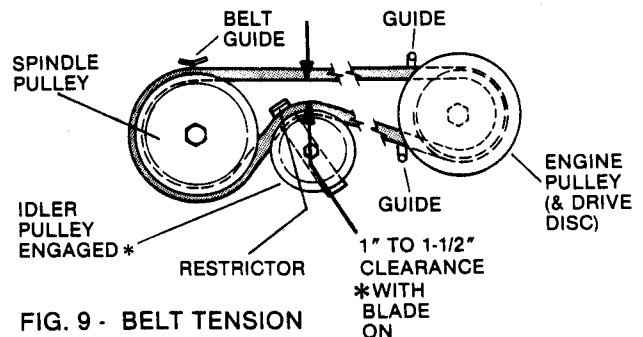

FIG. 9 - BELT TENSION
With the mower deck in the #5 height position and the blade in the ON position, check the distance between the inside surfaces of the belt as shown in FIG. 9 - the clearance should be from 1" to 1-1/2". The belt tension is adjusted by changing the "distance" between the main tube's vertical bracket (X) and the **FRONT** of the rear case. Remove the shoulder bolt (Y) from above the main tube and pull the front assembly **FORWARD**, increasing the belt tension until the correct amount is achieved. Remove one or more spacers as needed, from in front of the vertical bracket and move to the backside (between the bracket and the case). Then reinstall and securely tighten the shoulder bolt (Y).
If the belt becomes frayed, cracked, or worn, replace it as follows: Remove the **BELT COVER**, then cut and remove the old belt. To install a new belt, close the fuel cap (10-C) valve. Stand the mower on the **REAR BUMPER** (14-C), shift into **NEUTRAL**, and work the belt between discs, then shift into #5 speed and push belt over edge of engine drive disc. Work belt into the groove of the drive disc, then position other end in pulleys on mower deck as follows: Loosen or remove the idler pulley, loop the belt around spindle pulley as shown in FIG. 9 and work belt between restrictor and idler pulley.